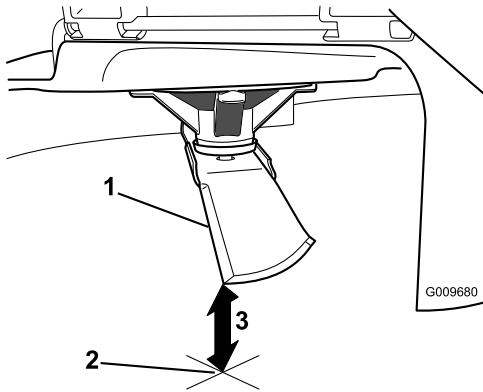

Figure 63
3. Measure from the tip of the blade to the flat surface (Figure 63).